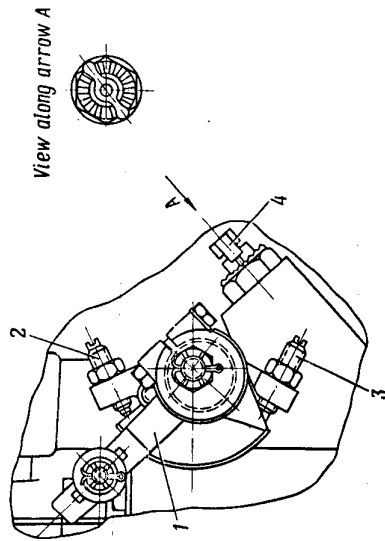

Fig. 6. Adjustment of Idling Speed
1. Unlock the thumb-piece of the HP-10A fuel pump (Fig.6).